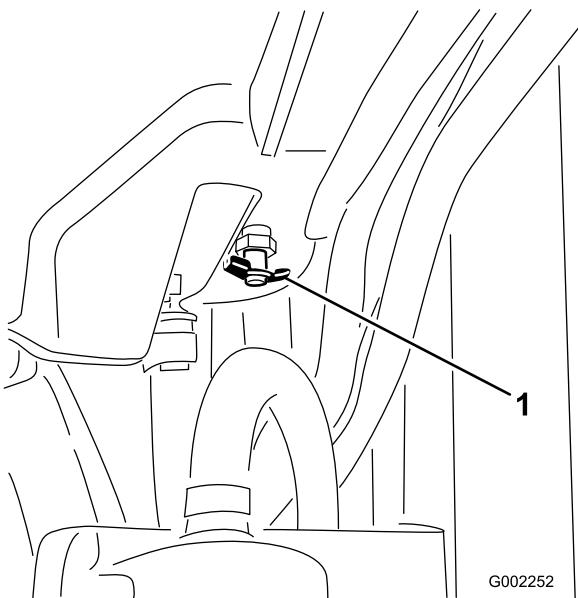

Figure 93
4. Open the drain valve and drain the coolant into the pan (Figure 93).
5. Close the drain valve (Figure 93).